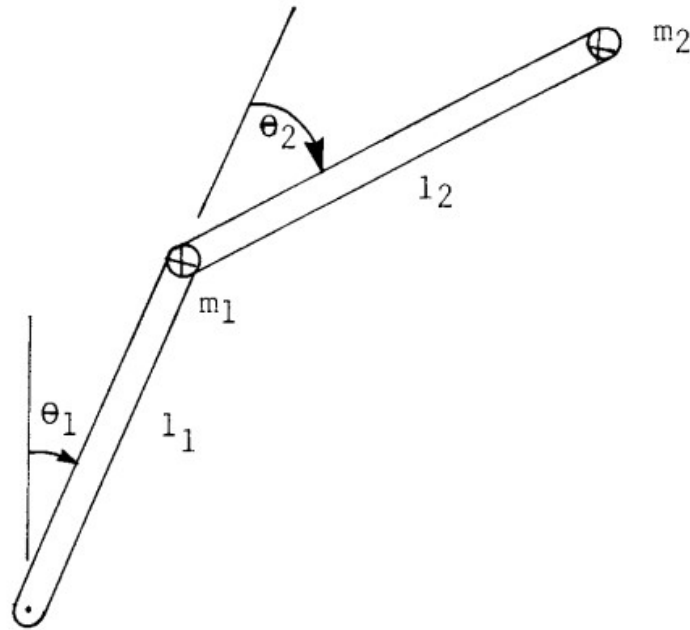

Figure Q3a
- a) For the two link mechanism of Figure Q3a is a, derive the dynamic equations using the Lagrangian method hence, determine the equations for the joint torques